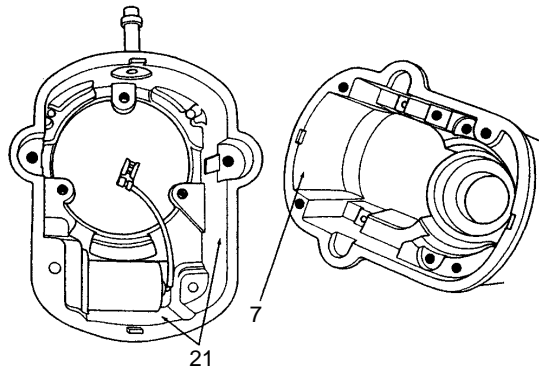

Figure 6
- (6) A yellow powder, yellow particles, oxides, or white chalky powder on the magneto frame (7) and housing (21) indicates moisture or corrosive contamination. See Figure 6. Clean or replace as necessary following procedures in paragraphs 3.B and C of this bulletin and Slick Maintenance and Overhaul Manual L-1037.